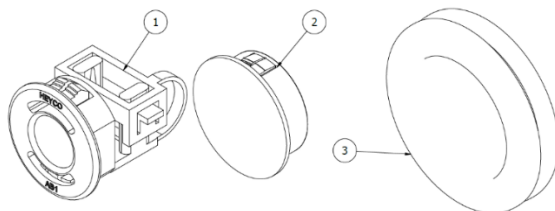

Figure 10 - Thermino Heat Battery Grommets & Strain Reliefs
- Remove the respective rubber grommets (item 3 -Figure 10) in the outer housing and cut the centres (with a cross) with a knife. Re-insert the cut grommets. Do not cut the grommets in place, as this may damage the VIP.
- (Refer to Figure 10) Move the cable strain relief fittings (1) to the side you wish to make the entries / exits. Cover all other holes in the enclosure with the supplied blanking grommets (2).